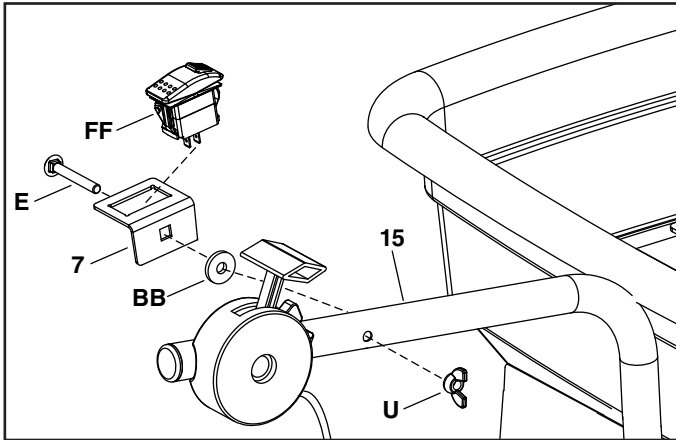

FIGURE 17
STEP 17: (SEE FIGURE 17)
- Install one carriage bolt (E) through the switch bracket (7), nylon washer (BB), and the control mount tube (15).
- Secure and tighten with one nylon wing nut (U).
- Install the on/off switch (FF) into the switch bracket (7) as shown below. Switch is installed when you hear the click.